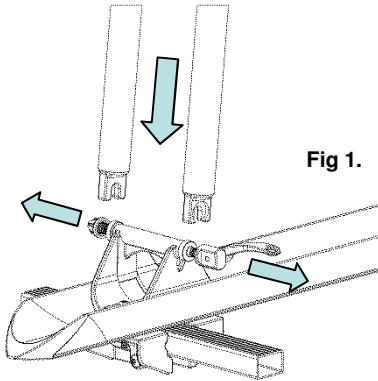

Fig 1.
1. Prior to loading bike, ensure Fork Clamp and nut have been unscrewed to the maximum width – See figure 1.